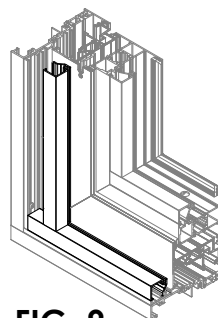

FIG. 9
- Install horizontal glass stops followed with vertical stops. **See FIG. 9**